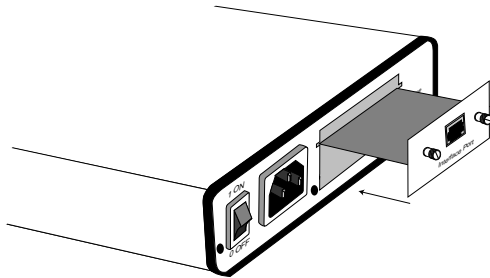

Figure 2. Installation of Model IM 1/I Plug-in Serial Interface Module
- 3) While keeping the module's faceplate parallel with the base unit rear panel, slide the module straight in—so that the card edge contacts line up with the socket inside the chassis. Figure 2 (below) shows how a Quick Connect Module plugs into the rear of the base unit.